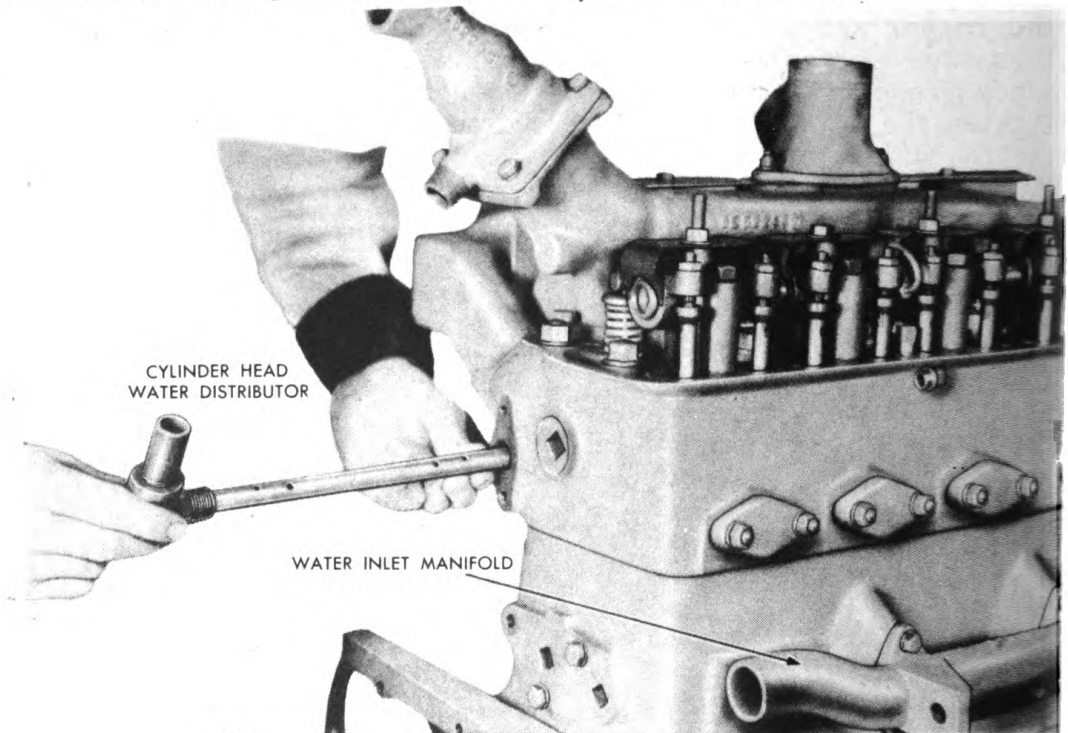

Figure 187. Installing Cylinder Head Water Distributor Tube.
26. If the water tube distributor in the cylinder head was not installed at the time of servicing the cylinder head, install it now as shown in Figure 187.